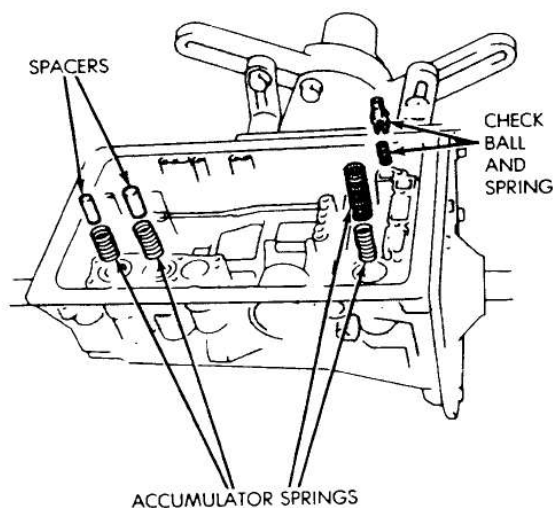

Fig. 13 Removing Accumulator Springs-Spacers-Check Ball
(18) Remove valve body from case. Then remove accumulator springs, spacers and check ball and spring (Fig. 13).